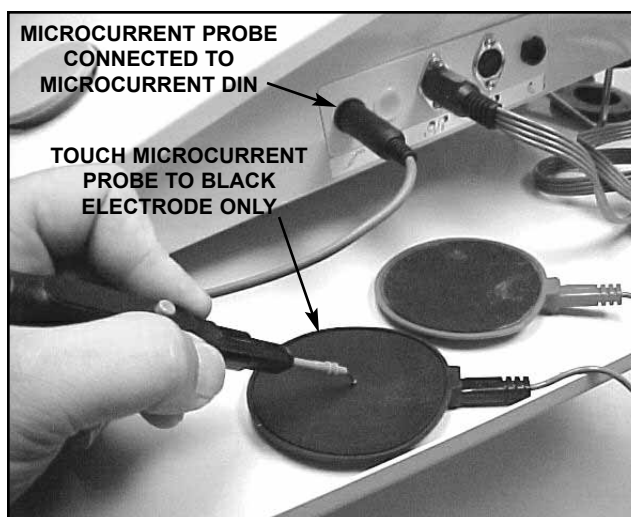

FIGURE 5.15
6. Touch the probe tip to the Black Electrode for Channel 1. See Figure 5.15.